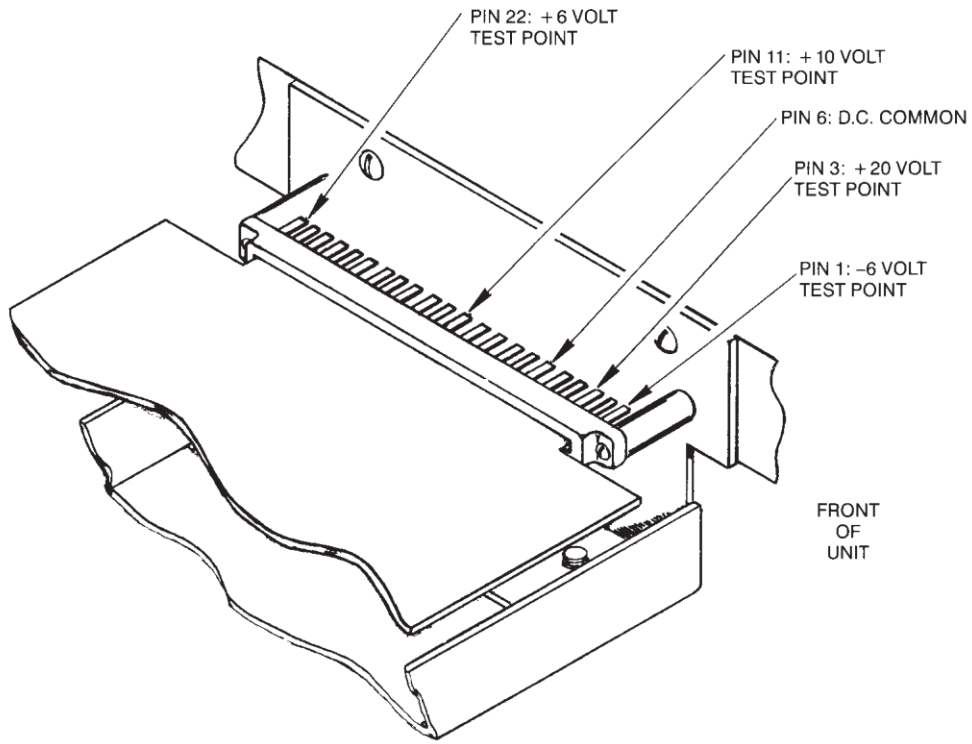
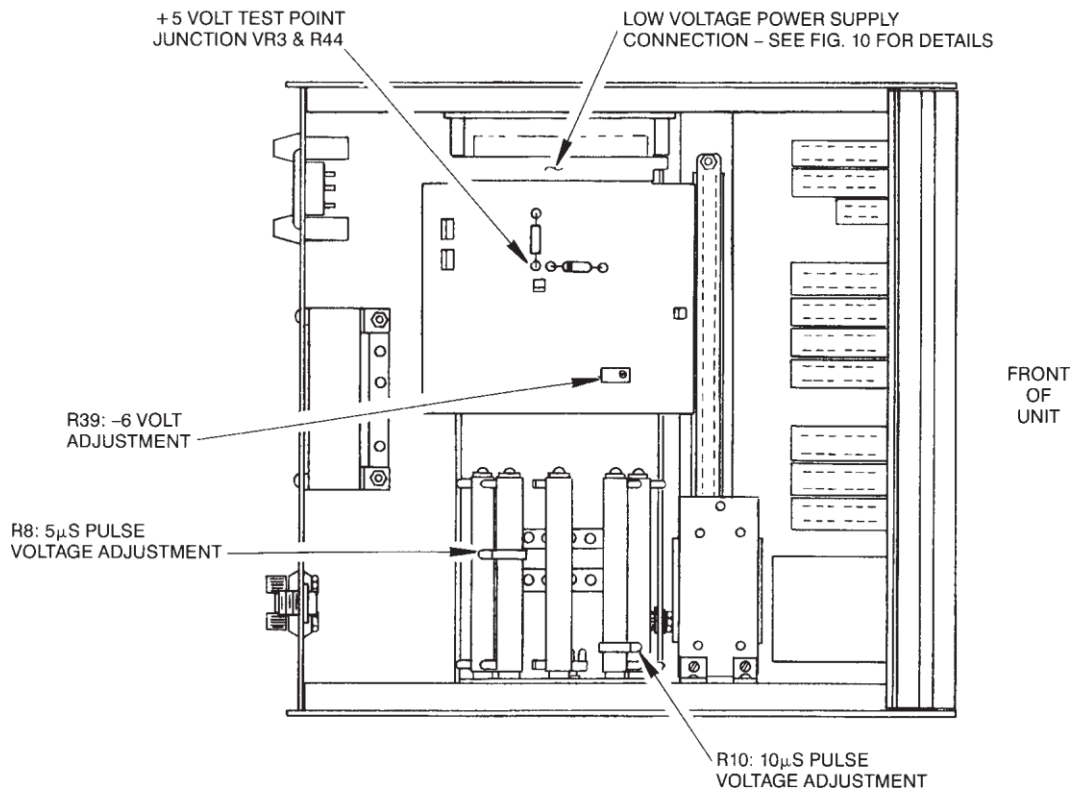
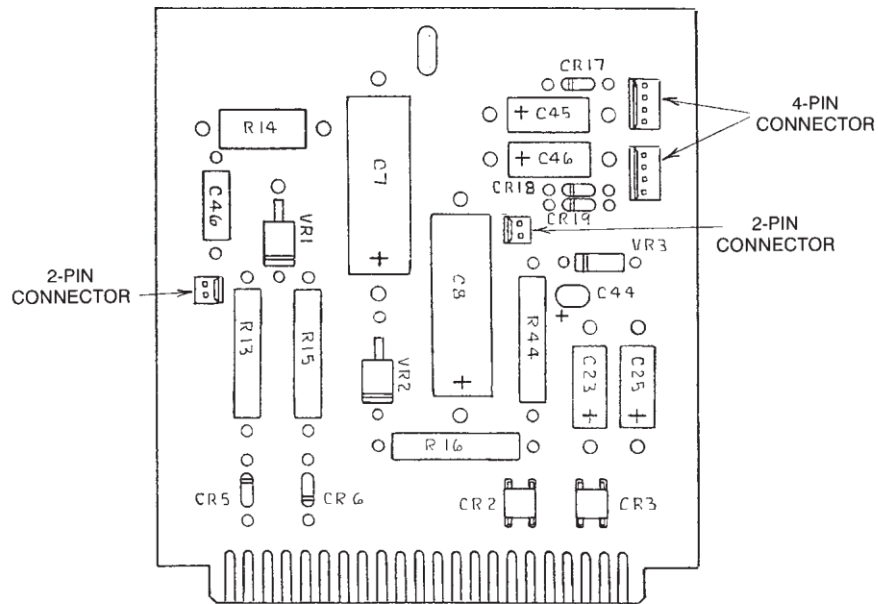

FIG. 10 LOW VOLTAGE POWER SUPPLY CONNECTOR TEST POINTS
FIG. 11 BOTTOM VIEW VOLTAGE TEST AND ADJUSTMENT POINTS
FIG. 16 LOW VOLTAGE POWER SUPPLY BOARD 828225F
7.4.1 Connect negative probe of the digital D.C. Voltmeter to pin 6 on the plug at the base of the plug-in board. Pin #1 is nearest the front of the unit. See Fig. 10 and Fig. 11. Alternatively, the probe can be placed on the negative end (case) of the 500  $\mu$ F (C8, Fig. 16) capacitor located on the p.c. board.
7.4.5 Connect the positive voltmeter probe to the junction of VR3 and R44. Refer to Fig. 11. This voltage should be between 4.5 and 5.2. Record the exact voltage for future reference.
7.7.1 Turn the unit over so that it can be viewed from the bottom with the front panel toward you (Fig. 11). Locate the high wattage resistor, R8, with a green wire on the tap (in the cluster of resistors on the left side as viewed from the front).
7.7.3 Locate the high wattage resistor, R10 (Fig. 11), with a yellow wire connected to the tap (in the cluster of resistors on the left side as viewed from the front). Depress the 10.0  $\mu$ S pushbutton and adjust the controls of the oscilloscope to view the pulse (5  $\mu$ S/Div) and note the peak amplitude. If the amplitude is not 600 volts, adjust the tap on R10 to exactly 600 volts, peak, on the oscilloscope.